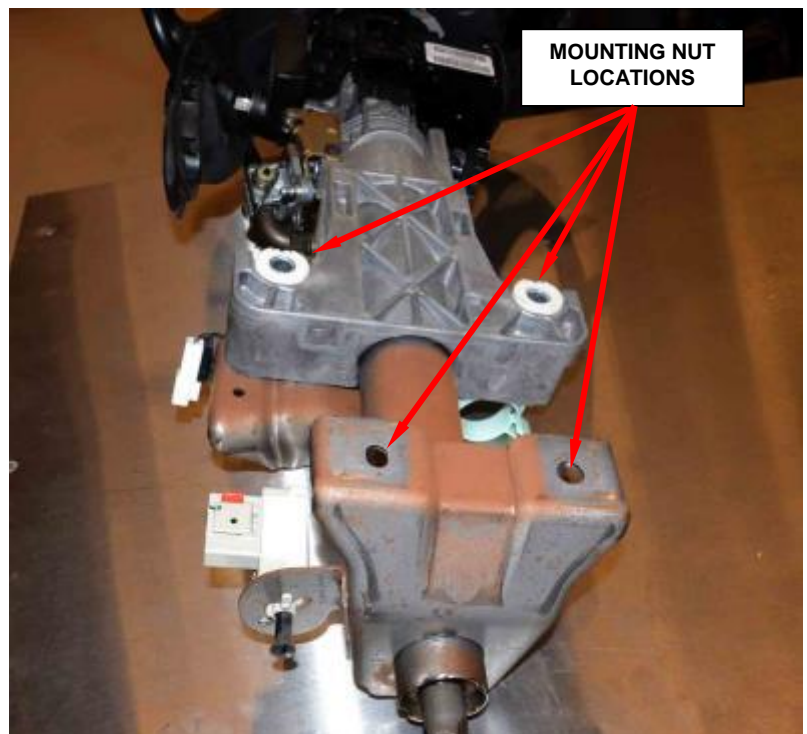

Figure 76 - Steering Column Mounting (Column Removed for Photographic Purposes)
16. Remove the four steering column mounting nuts (Figures 76 and 77).